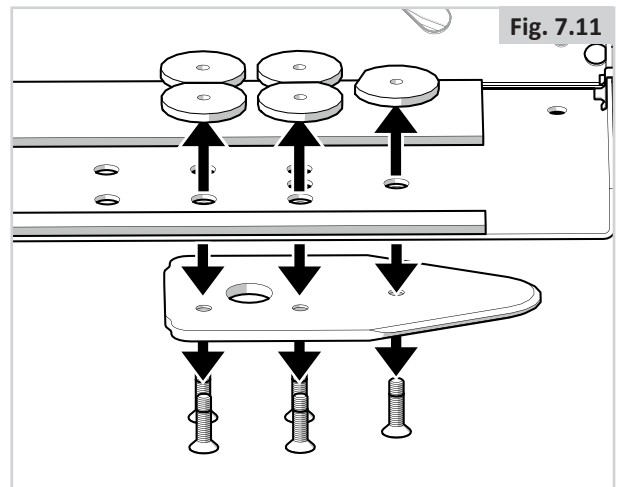

Fig. 7.11
6. Remove the screws together with the spacer/spacers (Fig. 7.11).